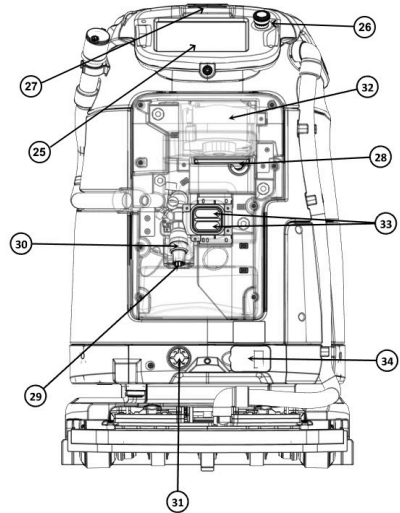

Figure 4
- 25. Touchscreen (Figure 4)
- 26. Emergency stop (Figure 4)
- 27. Top RGB camera (Figure 4)
- 28. Clean water inlet (Figure 4)
- 29. Waste water outlet (Figure 4)
- 30. Ball valve (Figure 4)
- 31. Clean water valve (Figure 4)
- 32. Vacuum motor (Figure 4)
- 33. Charging contacts (Figure 4)
- 34. Charging port flap (Figure 4)